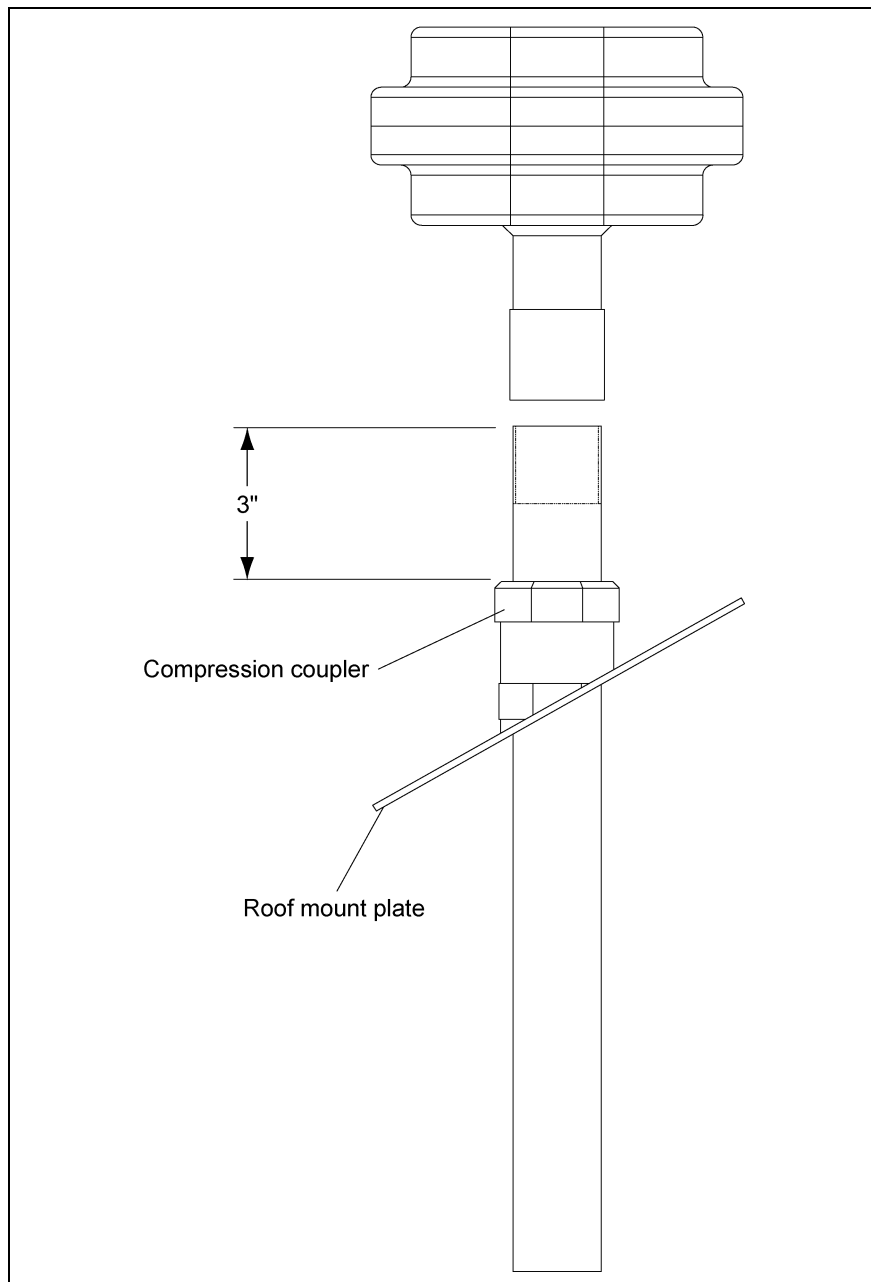

Figure 3U
4. Insert 1-1/4" pipe through adjustable roof mount weldment. Leave 1-1/4" pipe sticking out the top of the weldment 3" as shown in Figure 3U.